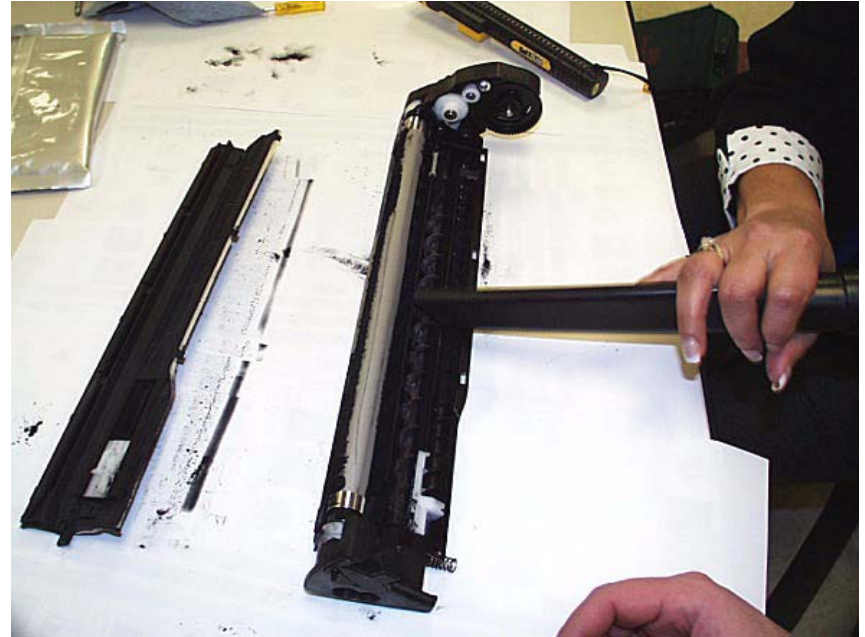

Figure 5 Vacuuming the Developer Housing
8. Vacuum the augers, mag roll and inner surfaces of the Developer Housing. (Figure 5)